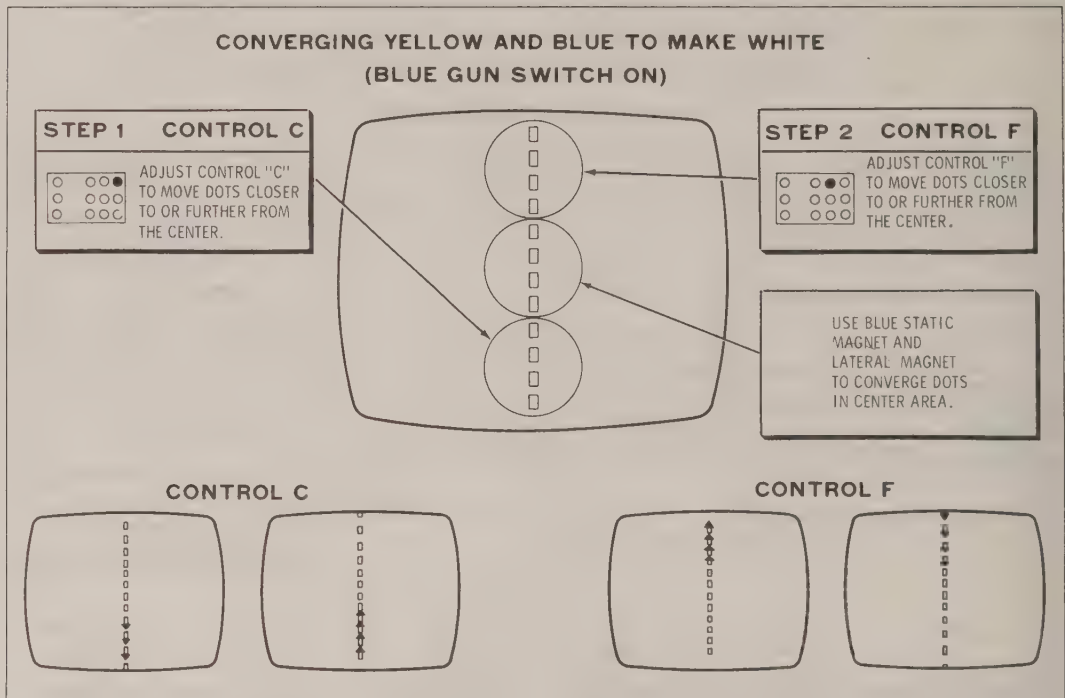

Figure 1-25
Perform the steps in Figure 1-25 to merge the blue dots with the yellow dots to make white dots in the top and bottom areas. See Photo L.
- () Check all the dots in the center vertical row to make sure they are all white. If the blue dots at the center of the screen are not properly converged, readjust the blue static convergence magnet and the blue lateral magnet, then repeat the steps in Figure 1-25.